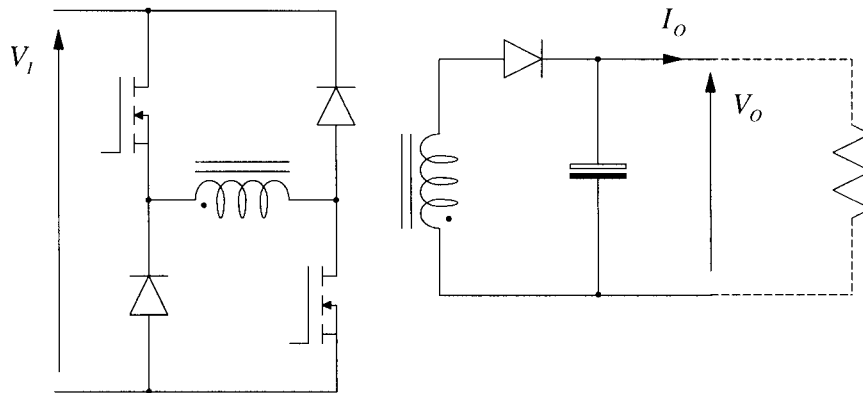

Figure 4.1 An isolated Flyback switch-mode power supply
- (b) Figure 4.1 shows an isolated Flyback switch-mode power supply employing two primary-side switches. Describe the advantages this circuit has over a circuit with one primary-side switch. [3]
- (c) The circuit of Figure 4.1 has been implemented with a transformer having a 20:1 turns ratio (primary : secondary) and a primary inductance of $100 \mu\text{H}$. It is to be used with an input voltage of $V_i = 340 \text{ V}$ and an output voltage of $V_o = 15 \text{ V}$.